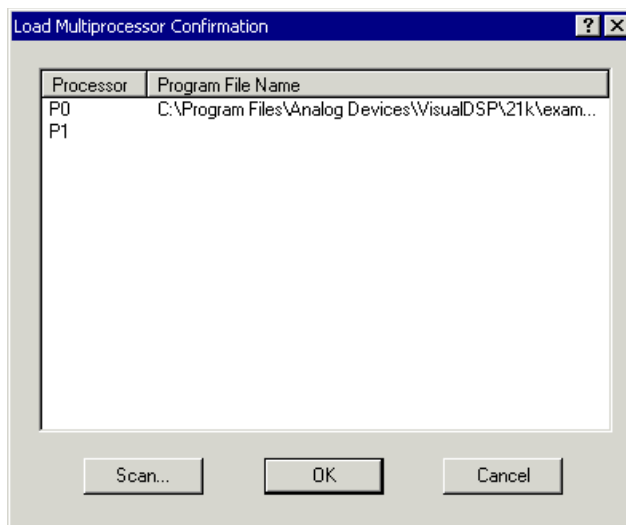

Figure 3-45. Load Multiprocessor Confirmation Dialog Box:
4. Double-click dotprodc.dxe to open the **Load Multiprocessor Confirmation** dialog box, shown in Figure 3-45.